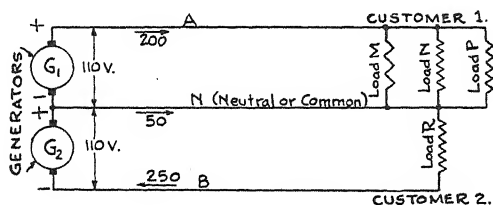

FIG. 119. Edison three-wire system.
Figure 119. Thus, by using the so-called "Edison" three-wire system, a power company can save 25 per cent of all its wire and insulators, and still get the same results. Such a saving is not to be overlooked.
- between  $A$  and  $N$ , the voltage is 110 v. (Figure 119),